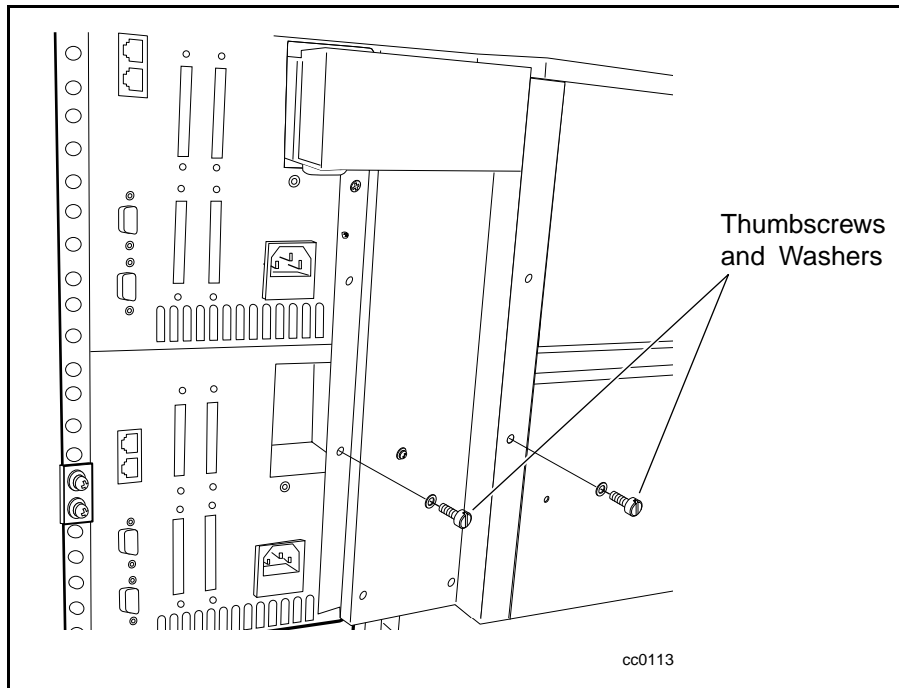

Figure 5-42. Removing the PTM
7. Remove the bullet-nose thumbscrews and washers (two per unit) that secure the PTM to the Library units (see Figure 5-42).
8. Gently pull the PTM out and away from the Library units (see Figure 5-42).
3. Align the two holes on the extrusion with mounting holes on the slave unit and attach the PTM in place using two bullet-nose thumbscrews and washers (Figure 5-42). Do not fully tighten the thumbscrews at this time.